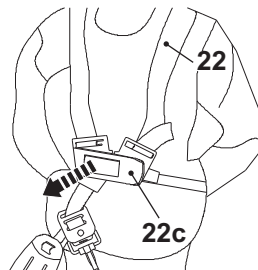

Fig. 18
8. In case of emergency hold the upper pole (9) with the right hand, and use the left hand to push open the release lever (22c). The harness (22) will be released automatically from the body because of the weight of the product (Fig. 18).